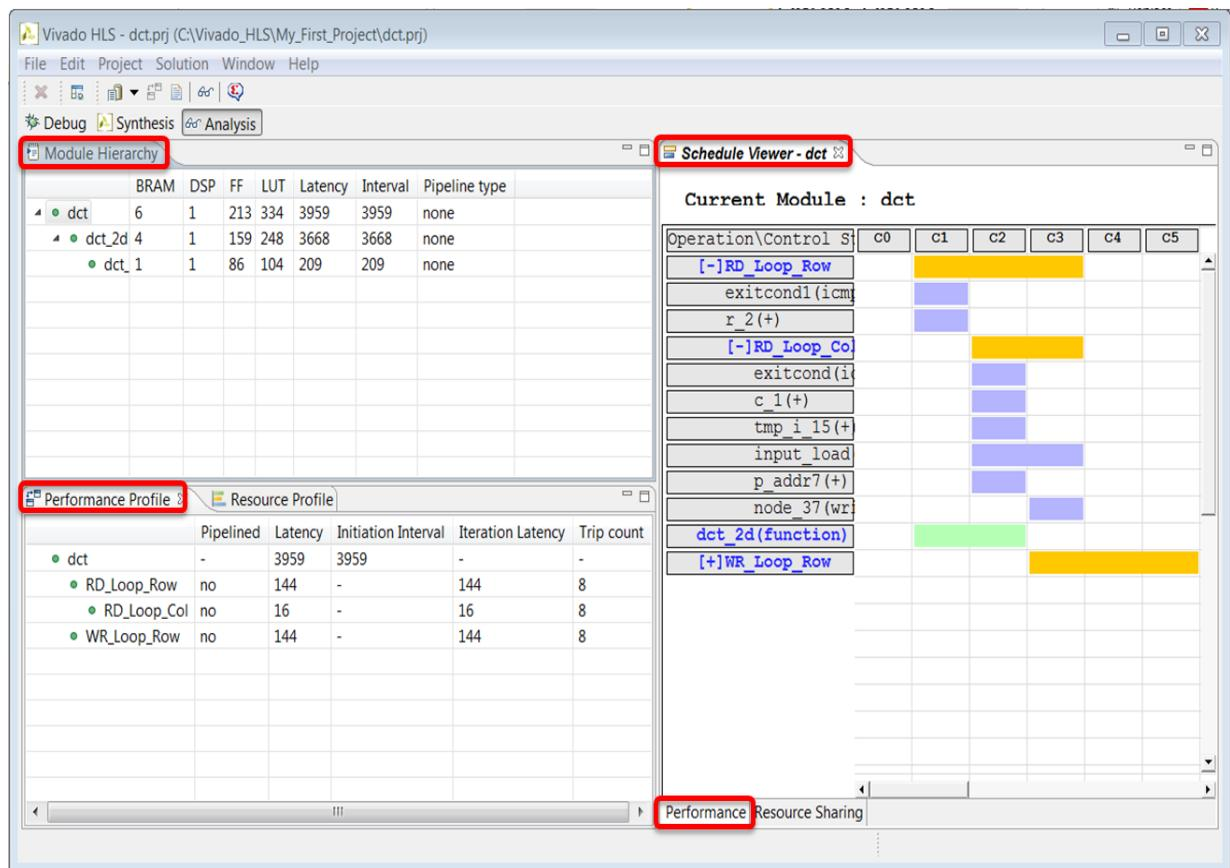

Figure 1-21: The Analysis Perspective
Figure 1-21 shows the default window configuration when the Analysis Perspective is first opened.
- A loop called RD_Loop_Row. In Figure 1-21 the loop hierarchy for loop RD_Loop_Row has been expanded.